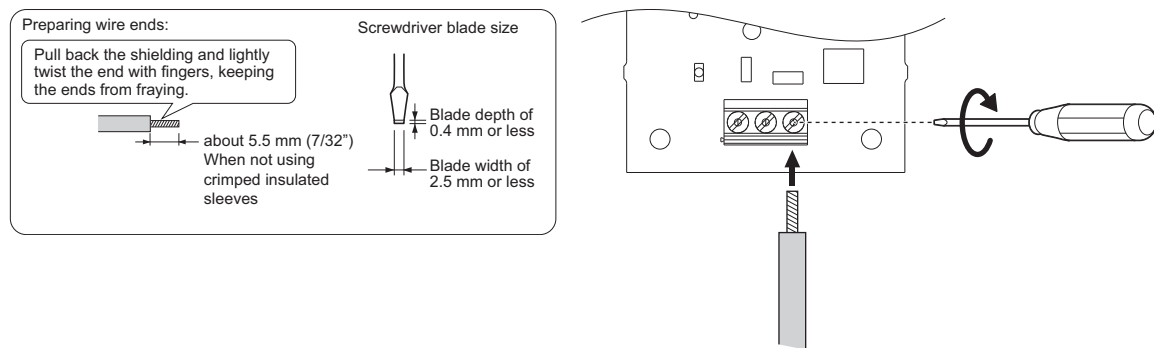

Figure 43 Wire the Option Plug
2. Use a flat-blade screwdriver to loosen the screws on the terminal block TB1, connect wiring to the 24, 0, and FE terminals as shown in **Figure 43**, then tighten the terminal screws to hold wiring in place.